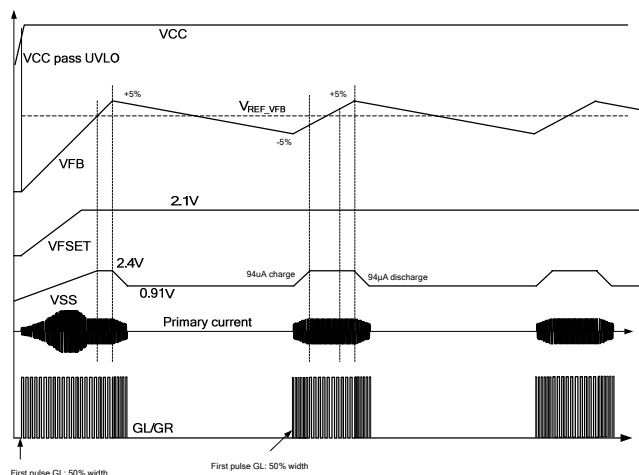

Figure 3: LLC Soft-Burst Operation at Standby Mode
1. V_{System} is controlled within $\pm 5\%$ and the circuit works in soft-burst mode. The VFSET voltage is clamped at 2.1V, so the switching frequency at burst mode is not too high. Power consumption is decreased in this mode. A soft burst-on time and soft burst-off time are added to the burst mode to eliminate audible noise (see Figure 3).